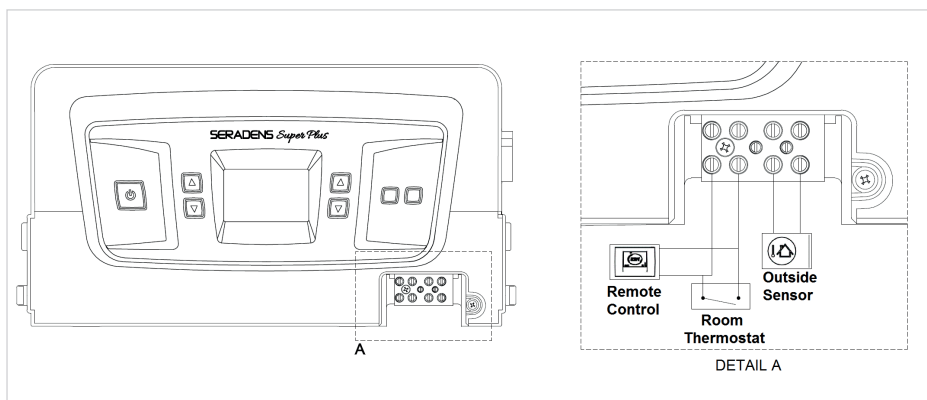

Figure 19. Electrical connections
- c. Slacken the screws and remove the protective cover positioned right-bottom part of the plastic panel (see detail A in Figure 19).
- d. With the cover removed, connect remote control, room thermostat and outside sensor wires as shown in Figure 19 detail A.